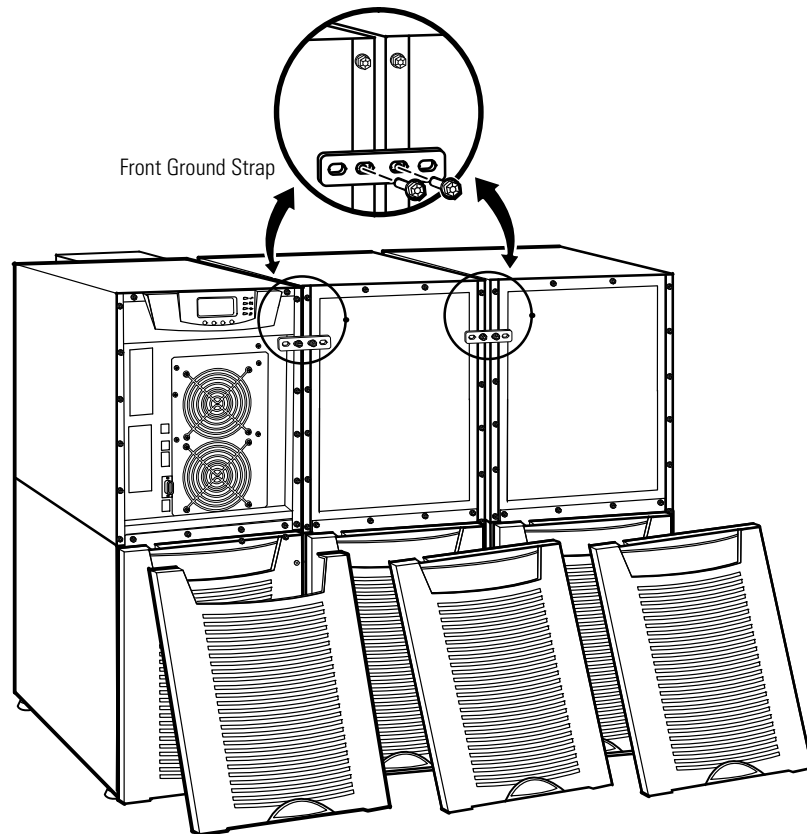

Figure 35. Front Ground Strap Installation (2-High Cabinets Shown)
9. Install the remaining ground straps between each cabinet (see Figure 35).